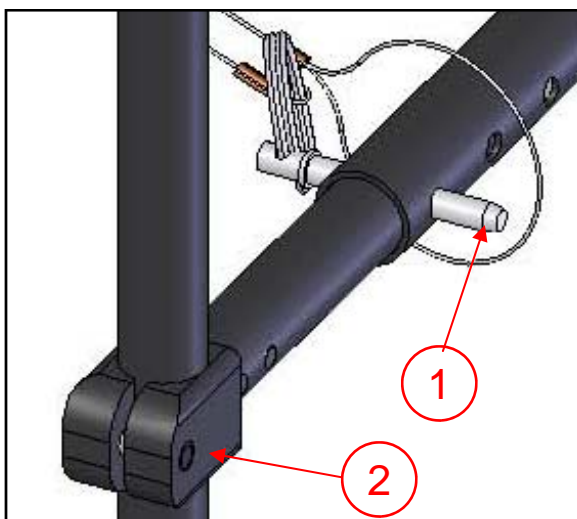
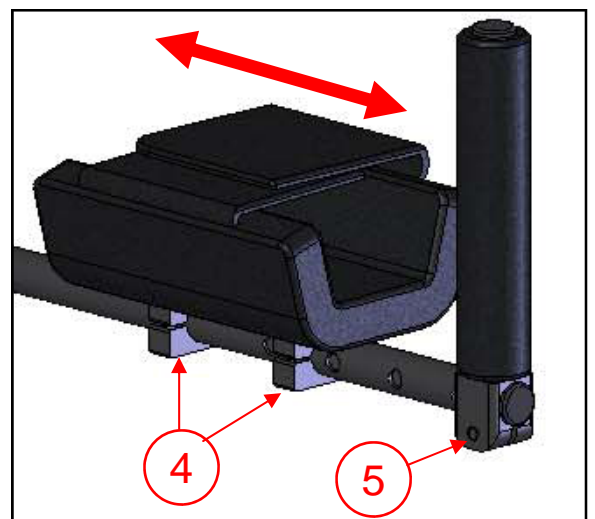

Figure 19B
Figure 19C
3. Height: The height can be adjusted by loosening the clamps (2) and moving the hand hold posts up or down. Tighten the clamp again when adjusted to fit. Figure 19B
4. Forearm support can be adjusted by loosening the four Allen screws (4).
5. Arm hold can be adjusted by loosening the Allen screws (5). Figure 19C.